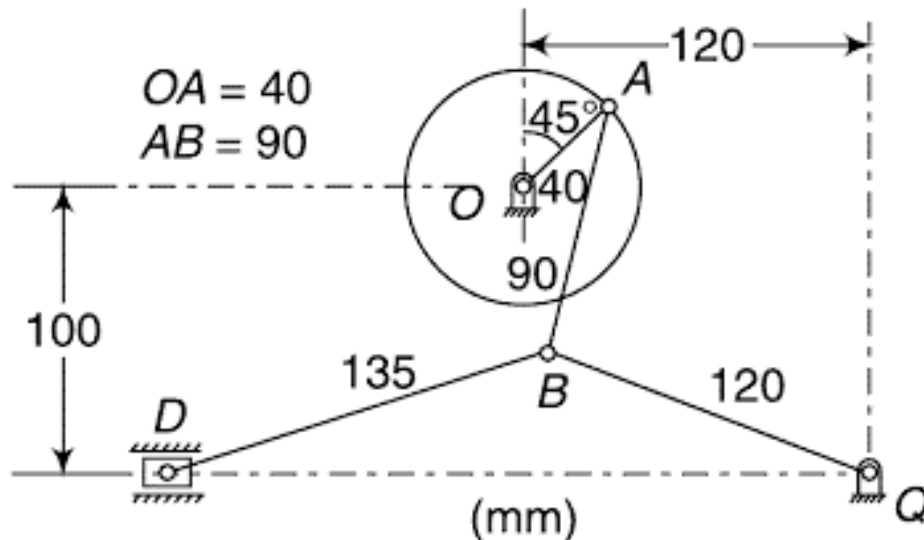

Figure Q2A
- 1B.** With a suitable neat sketch explain the working of a mechanism which is used to connect two parallel shafts whose axes are a small distance apart. (3)
- 1C.** Classify various types of cams on the basis of follower movement. (2)
- 2A.** Figure Q2A shows a toggle mechanism in which the crank OA rotates uniformly at 120 rpm (clockwise). Find acceleration of the slider at D. The velocities of various links are given as follows: (5)